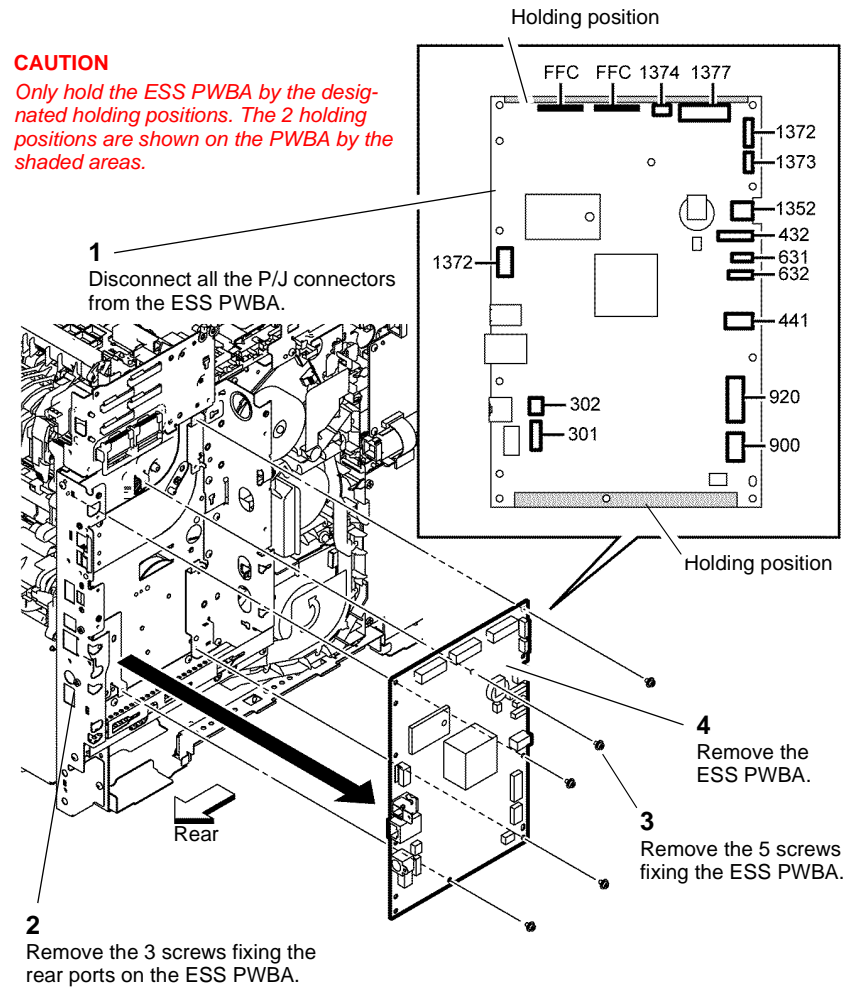

Figure 3 Remove the ESS PWBA
4. Remove the ESS PWBA, **Figure 3**.